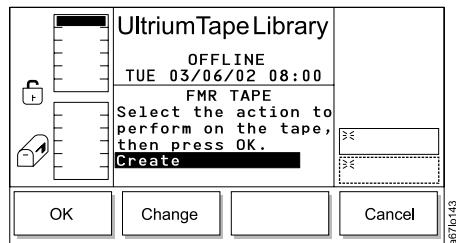

Figure 351. FMR Tape Dialog
5. Press the button below the **FMR Tape** softkey. The FMR Tape Dialog displays (see Figure 351 on page 229) with the Create or Erase function highlighted.